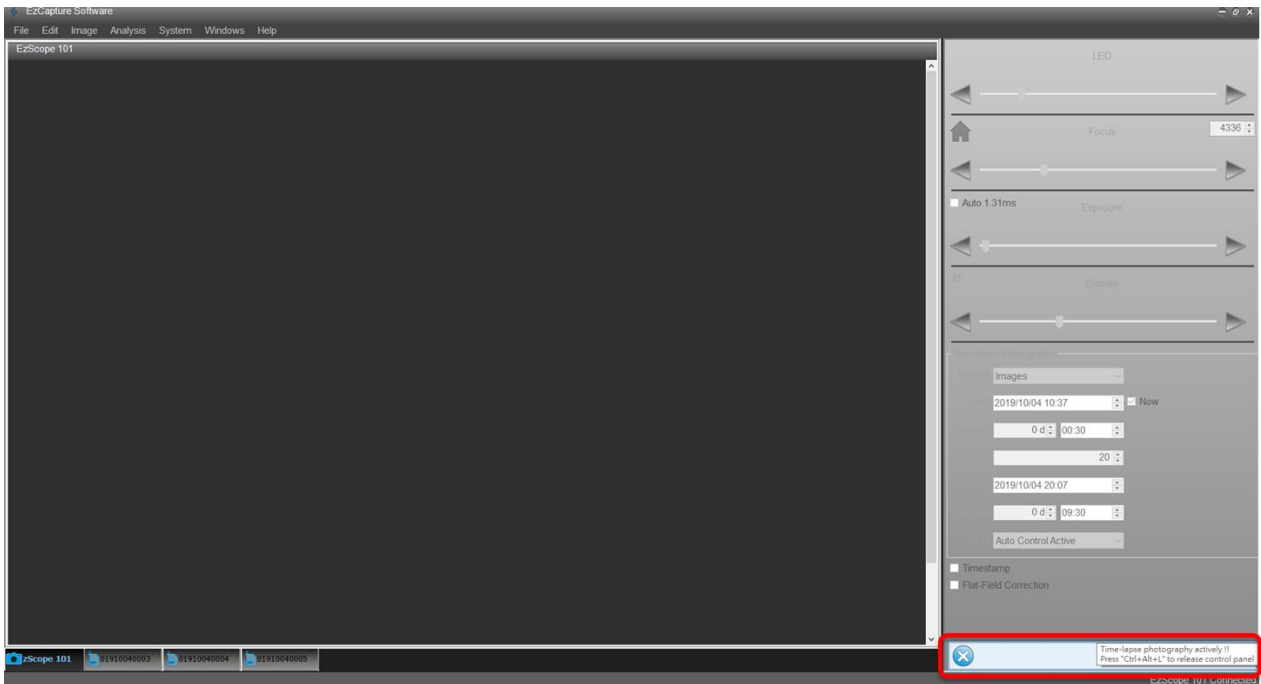

Figure 10. Unlock parameter setting functions and view live image during Time-lapse Photography
*To unlock the parameter setting function during time-lapse photographing, move the mouse on Capturing icon (Figure 10) and press "Ctrl + Alt + L" to unlock the parameter setting function.*